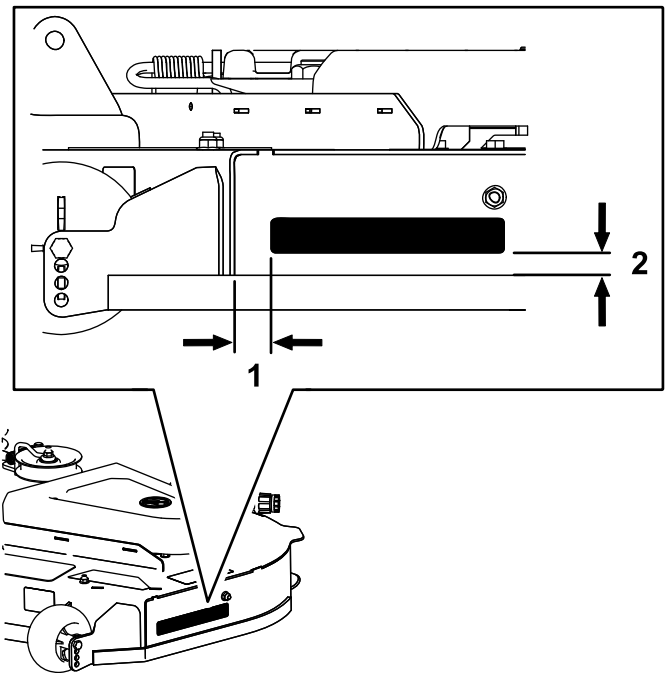

Figure 15
1. Install the decal to the mower deck in the location shown in Figure 15.